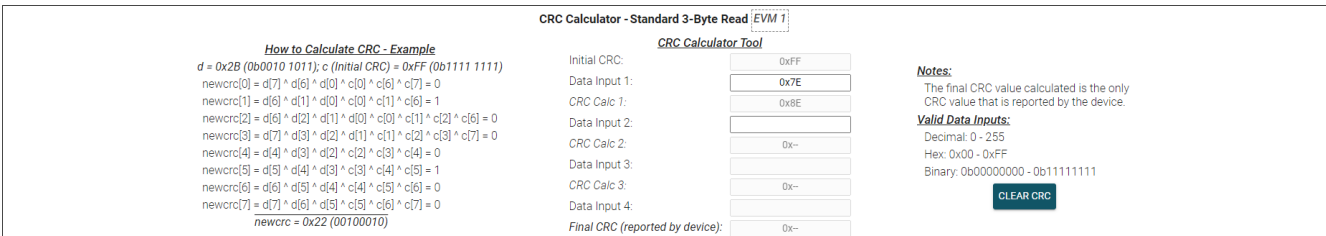

Figure 3-20. CRC Data Calculation 1
- i. To start, enter the data read back for *Register_Address*, which in this case was 0x7E (see Figure 3-20 below).